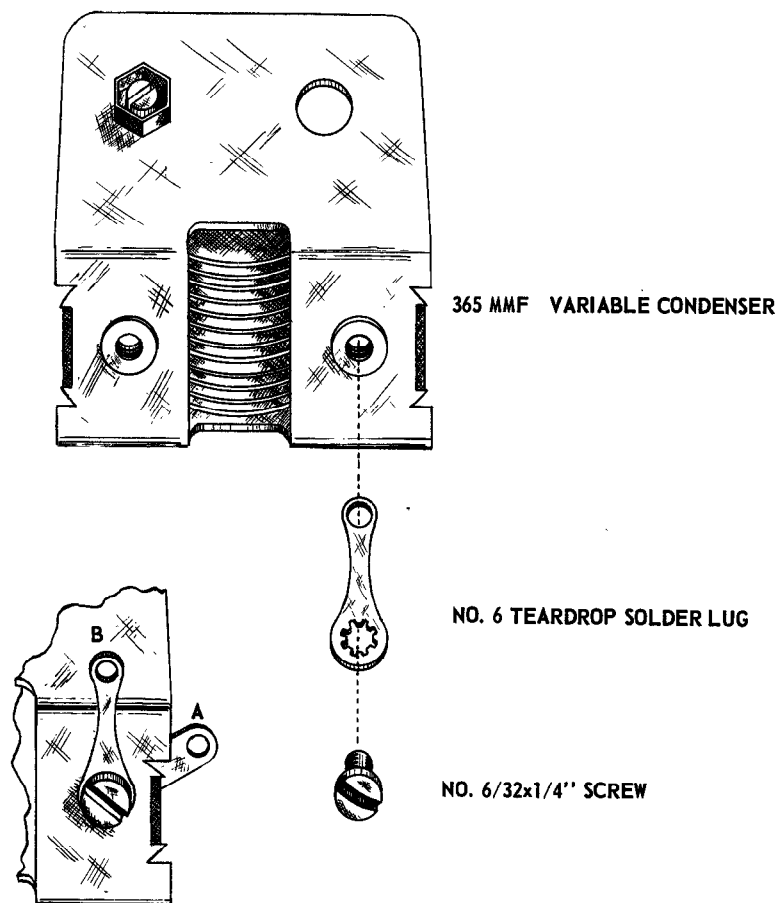

Figure 5.
- ☐ 44. Attach a tear drop type #6 grounding lug to the rear frame of tuning condenser TC-1. Use a 6-32x $\frac{1}{4}$ " screw and attach the lug so that it protrudes from the rear frame of the condenser as per Fig. 5. Tighten securely.
- ☐ 45. Attach a tear drop type #6 grounding lug to the rear frame of tuning condenser TC-2. Use a 6-32x1" screw and attach the lug so that it protrudes from the rear frame of the condenser as per Fig. 5. Tighten securely.